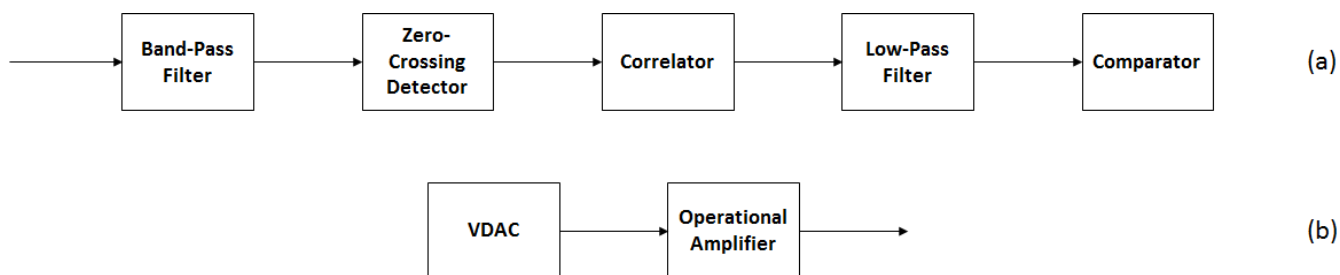

Figure 5: HART Demodulator (a) and Modulator (b) modular design
- *HART signal processing module.* Instead of using external HART modem IC, the full realization of HART modulator and demodulator is integrated into the MCU. The modular design of it is shown on figure 5⁷.